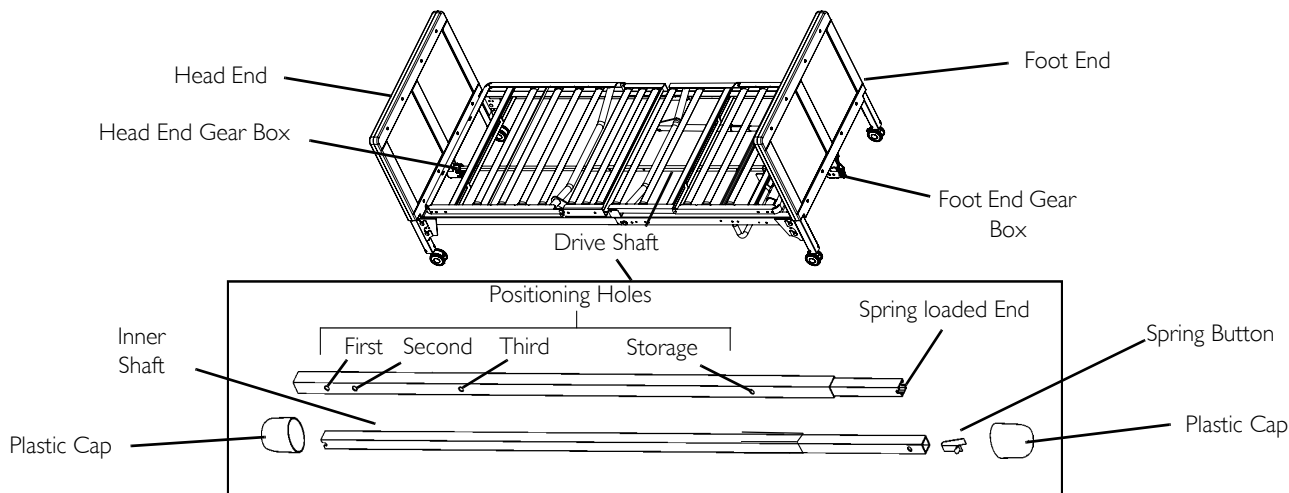
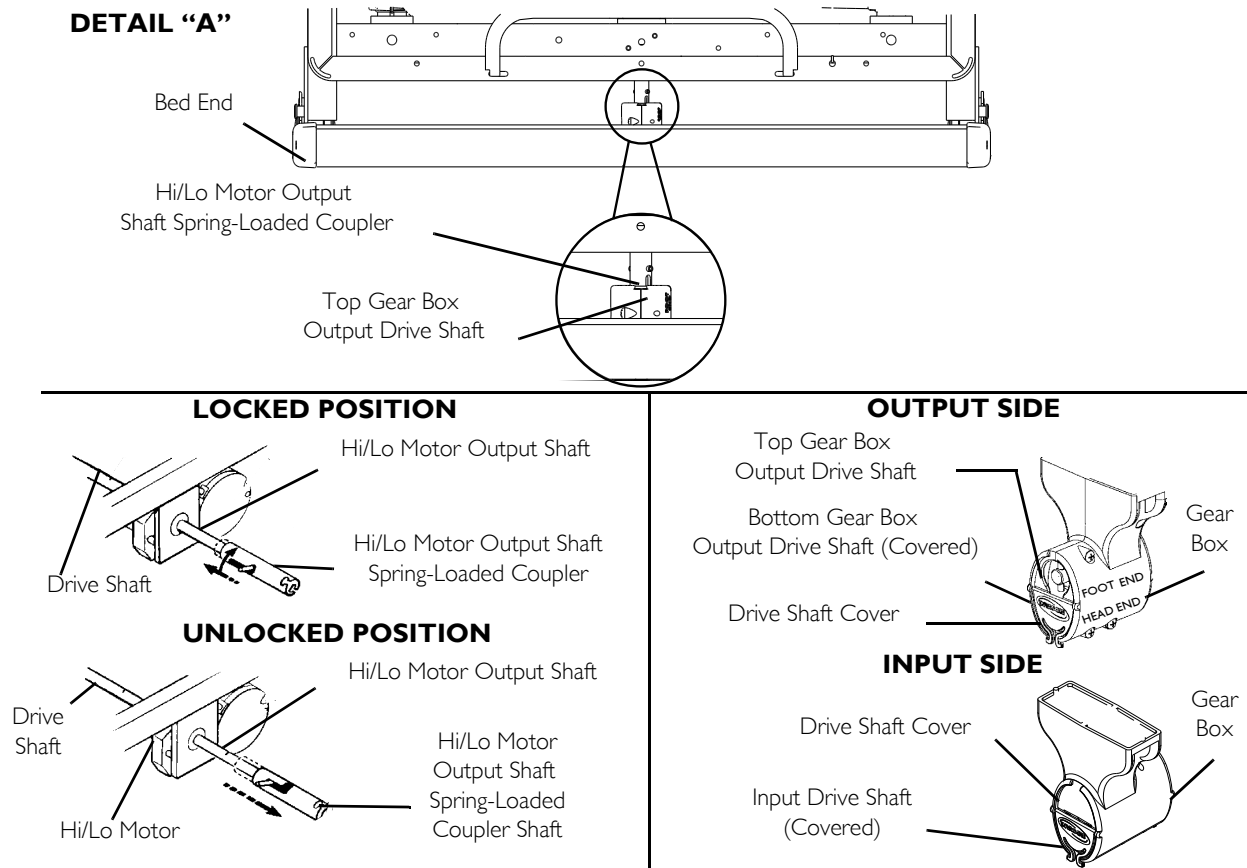

FIGURE 9 Assembling the Drive Shaft
FIGURE 10 Assembling the Drive Shaft
For this procedure, refer to FIGURE 9 on page 51 and FIGURE 10 on page 52.
- ii. Ensure the Hi/Lo motor output shaft spring-loaded coupler is properly aligned with the foot end gear box as shown in Detail “A” of FIGURE 10 on page 52.